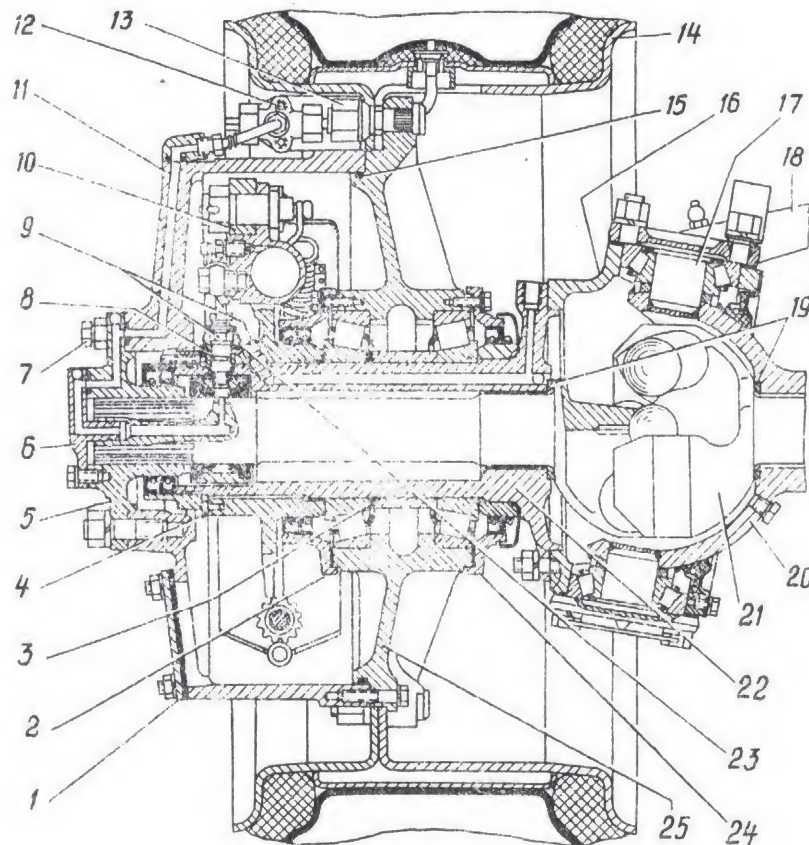

FIG. 39. FRONT WHEEL (SECTIONAL VIEW)
The design of the front axle steering knuckle is shown in Fig. 39. Secured to the axle shaft housing with studs is spherical bearing 20. Mounted on the king pins of the spherical bearing is steering knuckle body 16 connected to journal 22.
Constant-velocity universal joint 21 (see Fig. 39) is provided with two knuckles: one inner (driving) and one outer (driven). Torque is transmitted from the driving knuckle to the driven one through four driving balls. The middle ball is installed on the pin and serves for centering of the knuckle. Longitudinal displacement of the constant-velocity universal joint is limited by thrust washers 19, one of which is installed in the spherical bearing and the other, in the journal.
Adjustment of the wheel hub bearings is performed with shims 3 (Fig. 39) placed between the outer bearing inner race and distance bushing.
2. Remove the bolts securing inner cap 24 (see Fig. 39), detach cap 24 and remove hub 25 from axle journal 22.